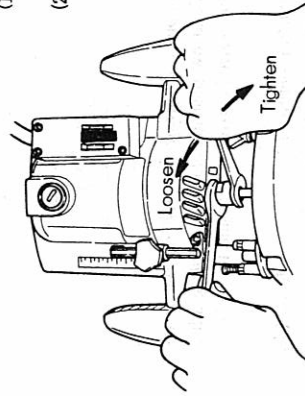

Fig. 4
- (1) After deeply inserting the bit into the collet chuck hole, tightly clamp the chuck with the provided wrench. (Fig. 4)
- (2) When employing bits with a shaft diameter of 1/4" (6.35 mm) or 3/8" (9.5mm), use the provided chuck sleeve. After deeply inserting the sleeve into the collet chuck hole, insert the bit into the chuck sleeve and tightly clamp the chuck with the provided wrench.